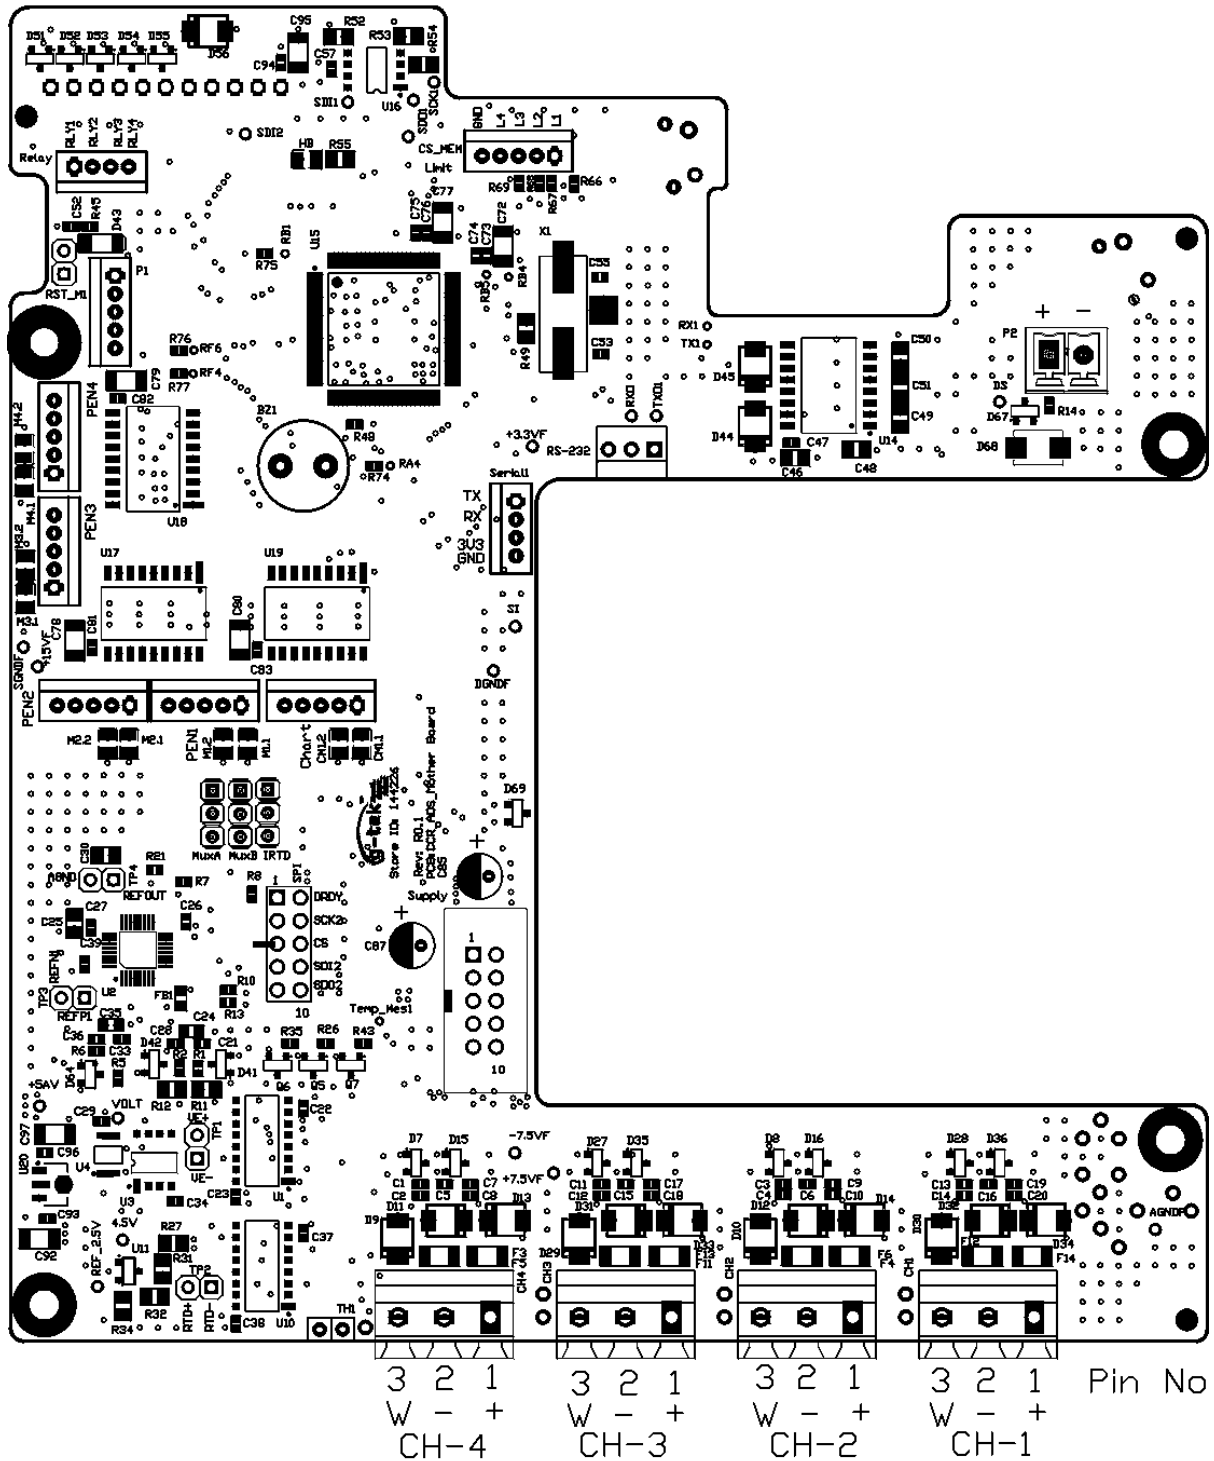

Figure 9 – Pin Descriptions of sensor connector
Please refer to the back panel of recorder to know the type of sensor input. For sensor wiring follow the steps mentioned below in figure 8. The Sensor PCB and the Sensor connector are shown in figure 9.
1. Pin No 1 ,2,3 are shown in the above figure 9.